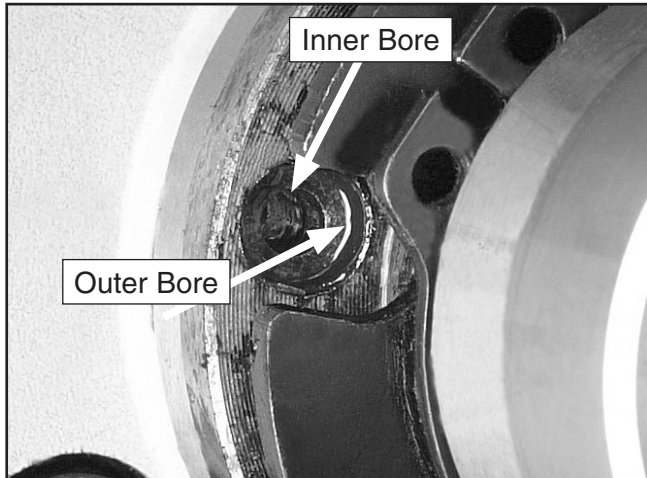

Figure 129. Aligned shear pin bores.
7. Using a magnet, remove the shear pin head, then rotate the lathe spindle to line up the bore that has the rest of the shear pin inside, and use the magnet to remove the other half of the broken shear pin (**Figure 129**).